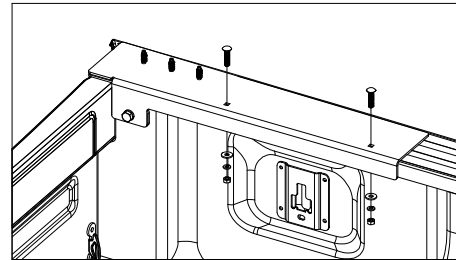

Figure B6.
- 4. Install the carriage bolts.** Insert a 5/16" X 1-1/2" Carriage Bolt in each of the drilled holes and secure using a flat washer, lock washer and finish nut, see Figure B6. Tighten each nut to 18 ft-lbs.